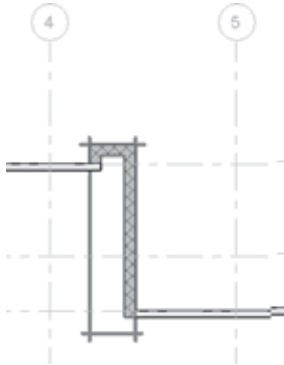

Figure 4.29
2. Use the Type Selector to change the walls to Generic – 8" (20 cm) Masonry. The walls maintain their exterior face justification and expand inward. Notice that the cut graphic changes as well — to a diagonal crosshatch. See Figure 4.29.